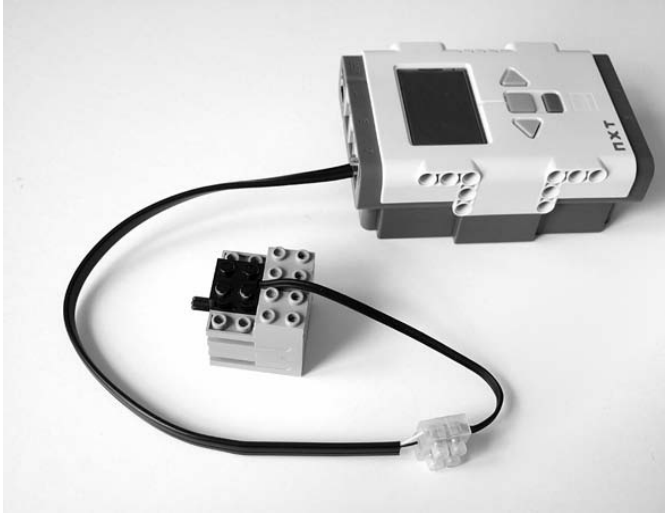

Figure 11-23. *NXT driving a 9V RCX motor*
6. The final cable is illustrated in Figure 11-23: it connects an RCX motor to the NXT.